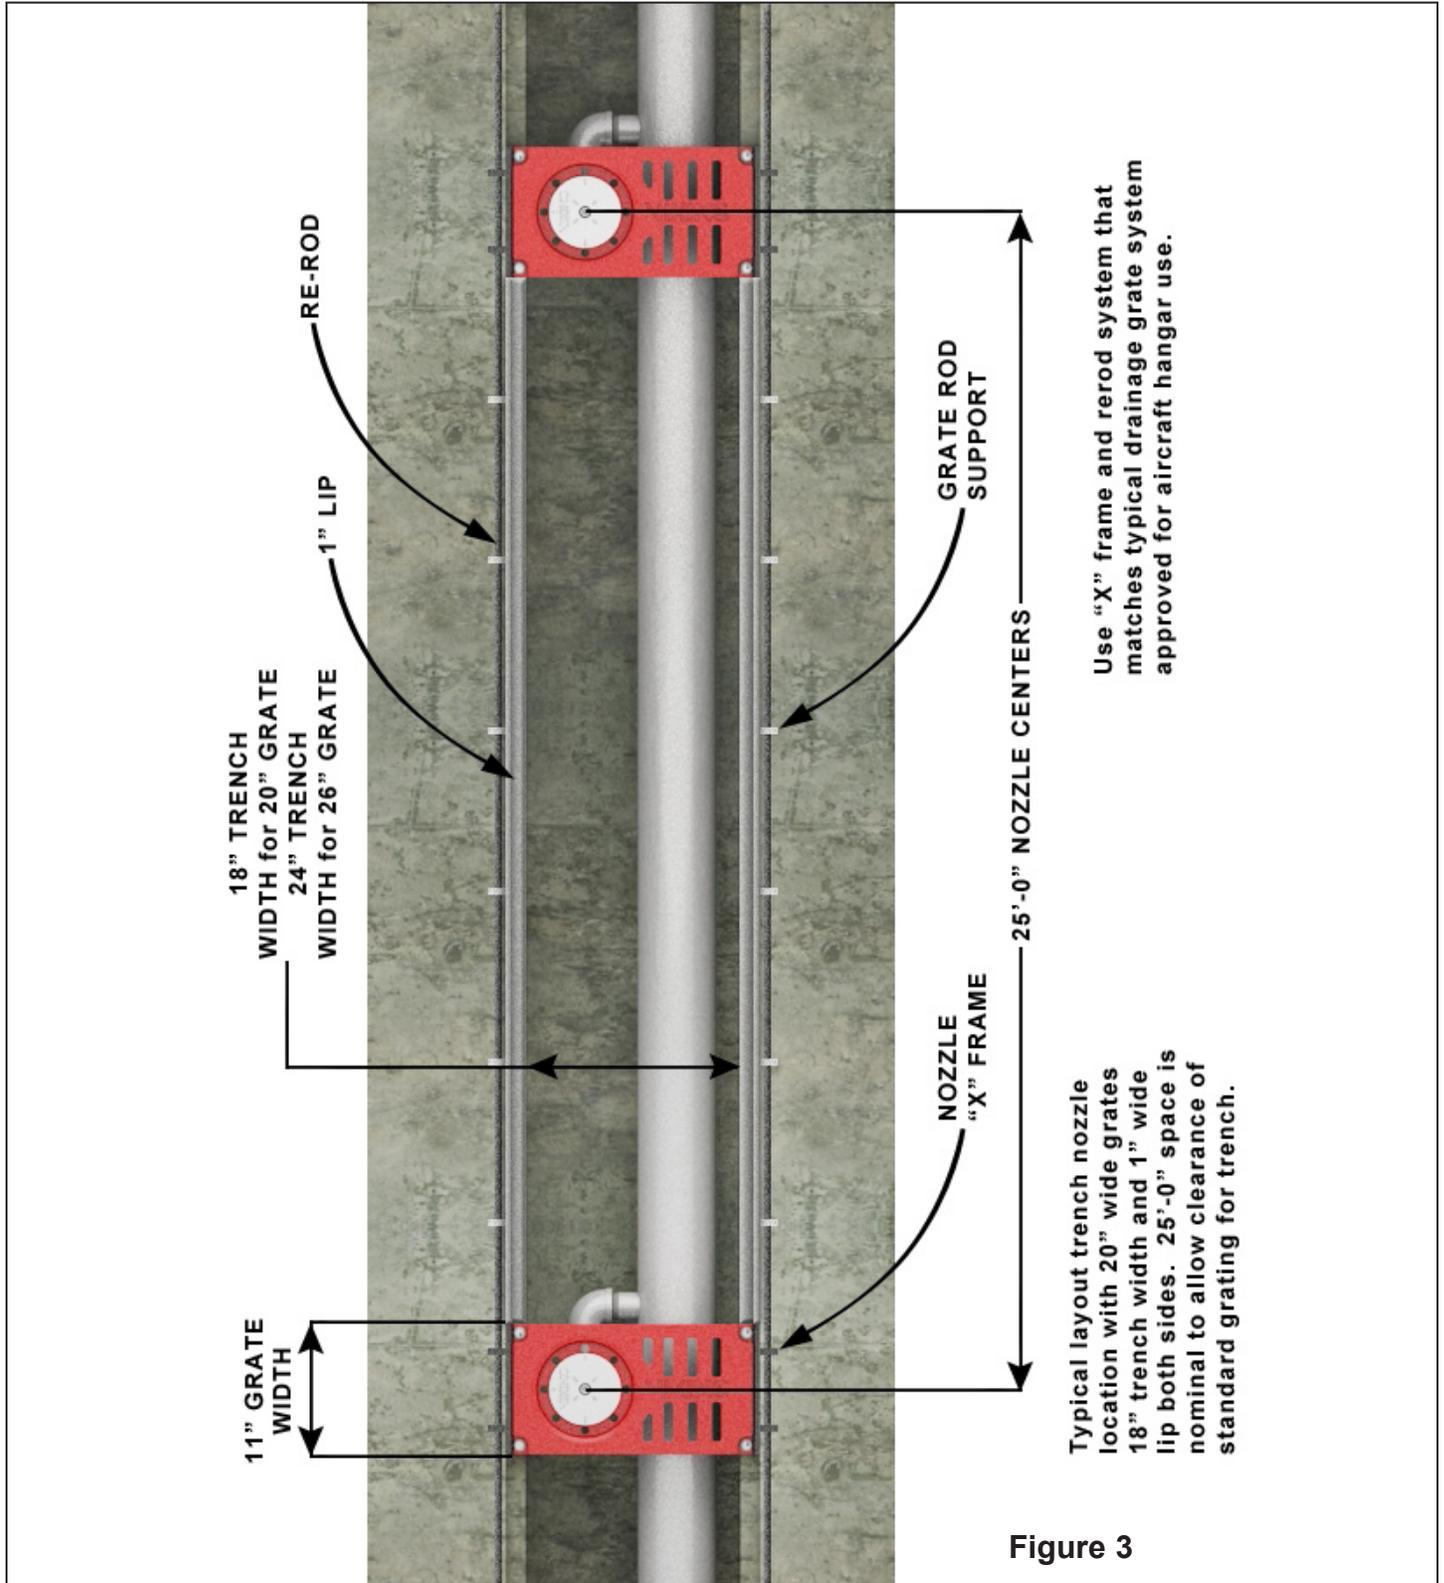

Figure 3
(Refer to Figures 3 & 4 for illustration of Grate Nozzle in trench drain grate)
2. Trench drains will vary in length due to hangar dimensions, but the trench length shall be such that a Grate Nozzle can be located half of its maximum dimension to a wall. (Refer to Figure 3).